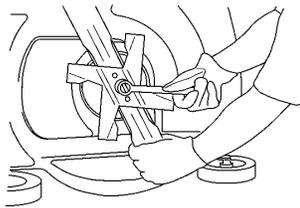

Figure 28
- Secure the blade with the blade nut (Fig. 28).